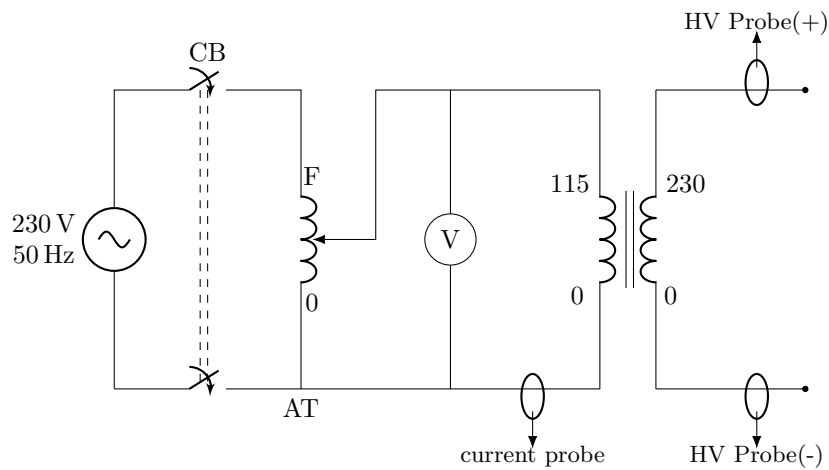

Figure 1: Experimental setup for voltage–current characterization and hysteresis-loop tracing of Transformer .
1. Maintain the transform at no load condition and excite the primary with the rated voltage (Figure 1)